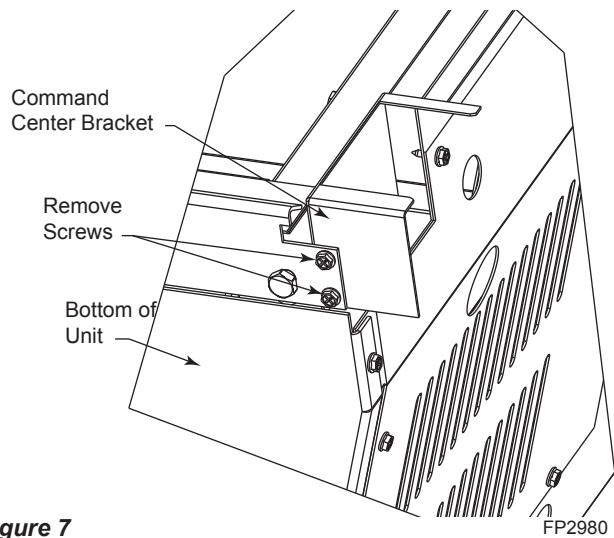

Figure 7
- Carefully lay unit on its back. Remove two (2) screws holding bracket to insert. *Figure 7*